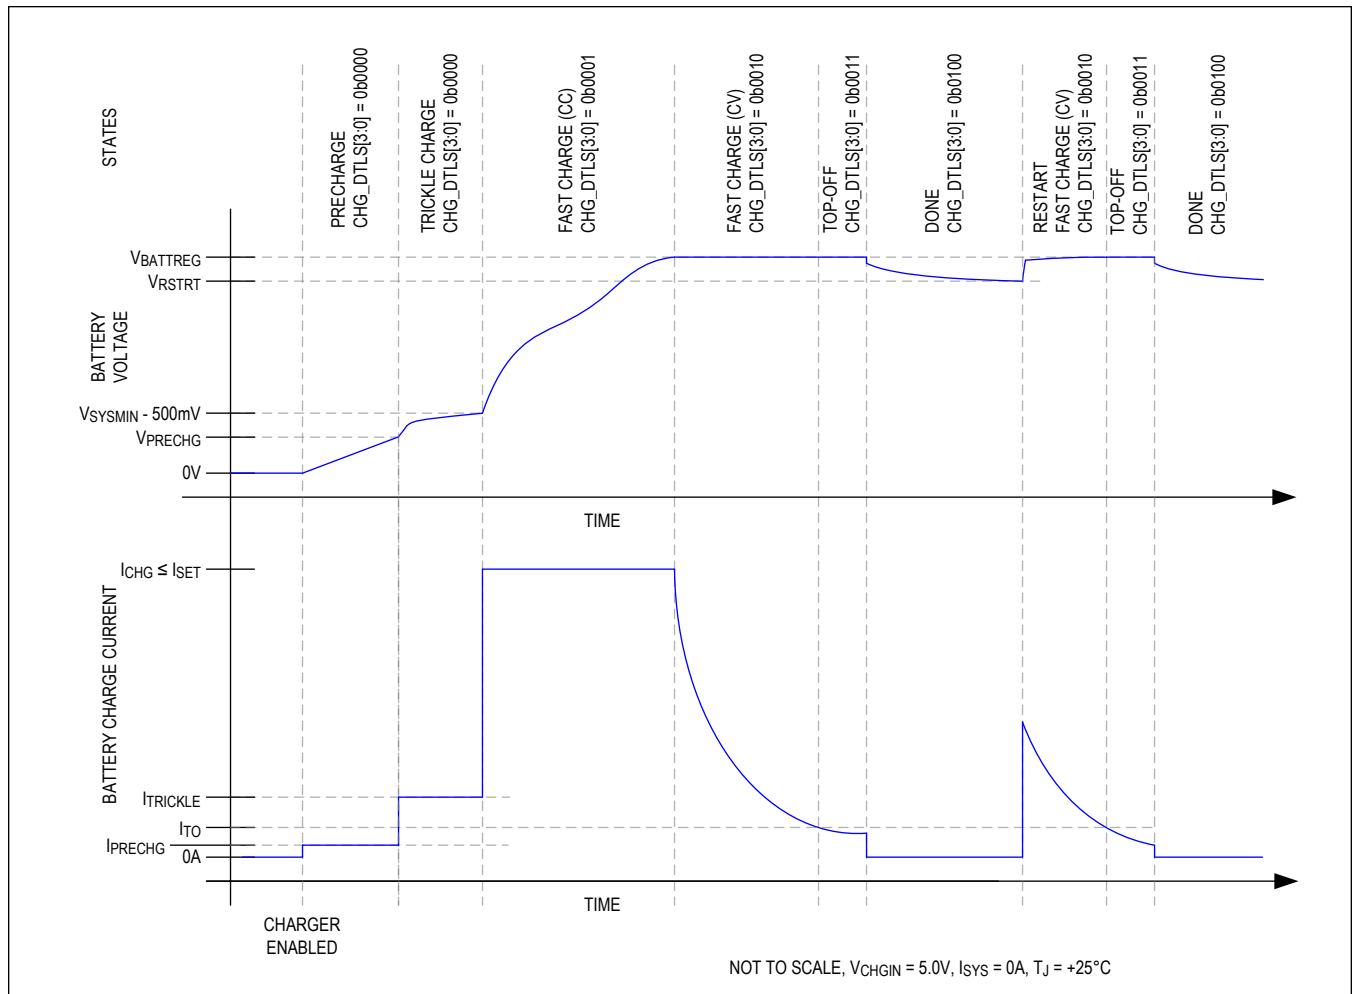
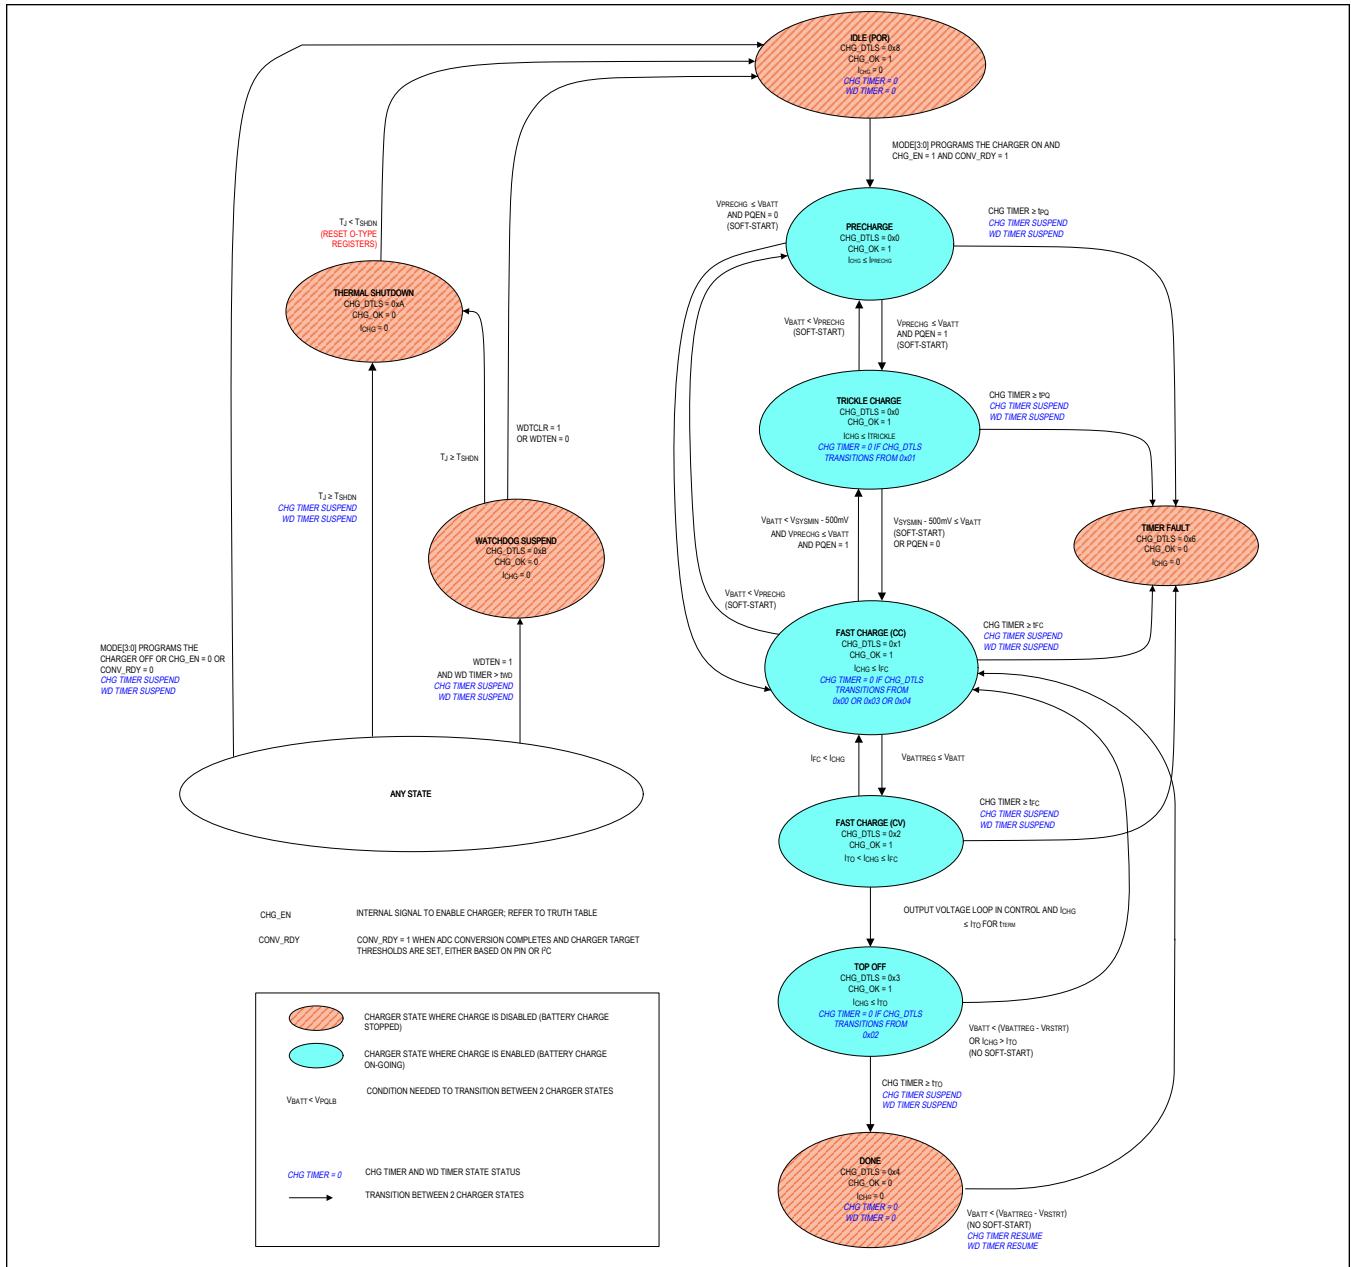

Figure 1. Li Battery Charge Profile
Figure 2. Charger State Diagram
The MAX77960B/MAX77961B utilize several charging states to safely and quickly charge batteries as shown in Figure 1 and Figure 2. Figure 1 shows an exaggerated view of a Li+/Li-Poly battery progressing through the following charge states when there is no system load and the die and battery are close to room temperature: Prequalification → Fast-charge → Top-off → Done.
From any state shown in Figure 2 except thermal shutdown, the no input power or charger disabled state is entered whenever the charger is programmed to be off or the charger input CHGIN is invalid. After being in this state for tSCIDG, CHG\_DTLS is set to 0x08 and CHG\_OK is set to 1. A CHG\_I interrupt is generated if CHG\_OK was 0 previously.
As shown in Figure 2, the charger enters the precharge state when the battery voltage is less than  $V_{PRECHG}$ . After being in this state for  $t_{SCIDG}$ , a CHG\_I interrupt is generated if CHG\_OK was 0 previously, CHG\_OK is set to 1 and CHG\_DTLS is set to 0x00. In the precharge state, charge current into the battery is  $I_{PRECHG}$ .
As shown in Figure 2, the charger state machine is in trickle charge state when  $V_{PRECHG} < V_{BATT} < V_{SYSTEMIN} - 500mV$ . After being in this state for  $t_{SCIDG}$ , a CHG\_I interrupt is generated if CHG\_OK was 0 previously, CHG\_OK is set to 1 and CHG\_DTLS = 0x00.
As shown in Figure 2, the charger enters the fast-charge constant current (CC) state when  $V_{SYSTEMIN} - 500mV$  (typ) <  $V_{BATT} < V_{BATTREG}$ . After being in the fast-charge CC state for  $t_{SCIDG}$ , a CHG\_I interrupt is generated if CHG\_OK was 0 previously, CHG\_OK is set to 1 and CHG\_DTLS = 0x01.
As shown in Figure 2, the charger enters the fast-charge constant voltage (CV) state when the battery voltage rises to VBATTREG from the fast-charge CC state. After being in the fast-charge CV state for tSCIDG, a CHG\_I interrupt is generated if CHG\_OK was 0 previously, CHG\_OK is set to 1 and CHG\_DTLS = 0x02.
In the fast-charge CV state, the battery charger maintains VBATTREG across the battery and the charge current is less than or equal to IFC. As shown in Figure 1, charger current decreases exponentially in this state as the battery becomes fully charged.
As shown in Figure 2, the top-off state can only be entered from the fast-charge CV state when the charger current decreases below ITO for tTERM. After being in the top-off state for tSCIDG, a CHG\_I interrupt is generated if CHG\_OK was 0 previously, CHG\_OK is set to 1, and CHG\_DTLS = 0x03. In the top-off state the battery charger maintains VBATTREG across the battery and typically the charge current is less than or equal to ITO.
As shown in Figure 2, the battery charger enters its done state after the charger has been in the top-off state for  $t_{TO}$ . After being in this state for  $t_{SCIDG}$ , a CHG\_I interrupt is generated only if CHG\_OK was 0 previously, CHG\_OK is set to 0 and CHG\_DTLS = 0x04.
The battery charger provides both a charge timer and a watchdog timer to ensure safe charging. As shown in Figure 2, the charge timer prevents the battery from charging indefinitely. The time that the charger is allowed to remain in its prequalification states is  $t_{PQ}$ . The time that the charger is allowed to remain in the fast-charge CC and CV states is  $t_{FC}$ , which is programmable with FCHGTIME. Finally the time that the charger is in the top-off state is  $t_{TO}$  which is programmable with TO\_TIME. Upon entering the timer fault state a CHG\_I interrupt is generated without a delay, CHG\_OK is cleared and CHG\_DTLS = 0x06.
The charger is off in the timer fault state. The charger can exit the timer fault state when the charger is programmed to be off then on again through the MODE bits or when DISQBAT pin is toggled from L-H-L. Alternatively, the charger input can be removed and reinserted to exit the timer fault state (see the ANY STATE bubble in Figure 2).
The battery charger provides both a charge timer and a watchdog timer to ensure safe charging. As shown in Figure 2, the watchdog timer protects the battery from charging indefinitely in the event that the host hangs or otherwise cannot communicate correctly. The watchdog timer is disabled by default with WDTEN = 0. Enable the feature by setting WDTEN = 1. With watchdog timer enabled, the host controller must reset the watchdog timer within the timer period ( $t_{WD}$ ) in order for the charger to operate properly. Reset the watchdog timer by programming WDTCLR = 0x01.
As shown in Figure 2, the state machine enters the thermal shutdown state when the junction temperature ( $T_J$ ) exceeds the device's thermal shutdown threshold ( $T_{SHDN}$ ). When  $T_J$  is close to  $T_{SHDN}$ , the charger would have already folded back the input current to 0A, (see the Thermal Foldback section for more details), so the charger and the DC-DC are effectively off. Upon entering this state, CHG\_I interrupt is generated if CHG\_OK was 1 previously, CHG\_OK is cleared, and CHG\_DTLS = 0x0A.